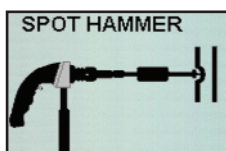

Figure 6.16
2. Select Spot Hammer Program by pressing the Left or Right Navigation Buttons (fig. 4.9). Make sure that Spot Hammer graphic appears on the screen (fig. 6.16)